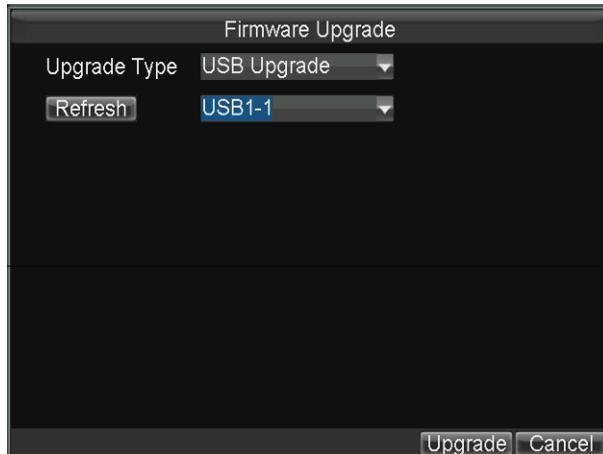

Figure 8.2 Upgrade Interface
1. Enter the Upgrade interface and select upgrade type as USB Upgrade, as shown in Figure 8.2.